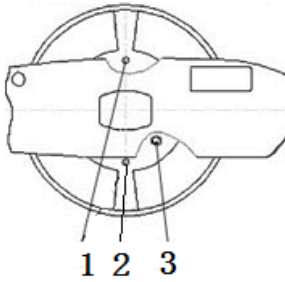

Figure 3-33
3.4.7.2 Replace the lubrication oil in front drum. (Figure 3-33)